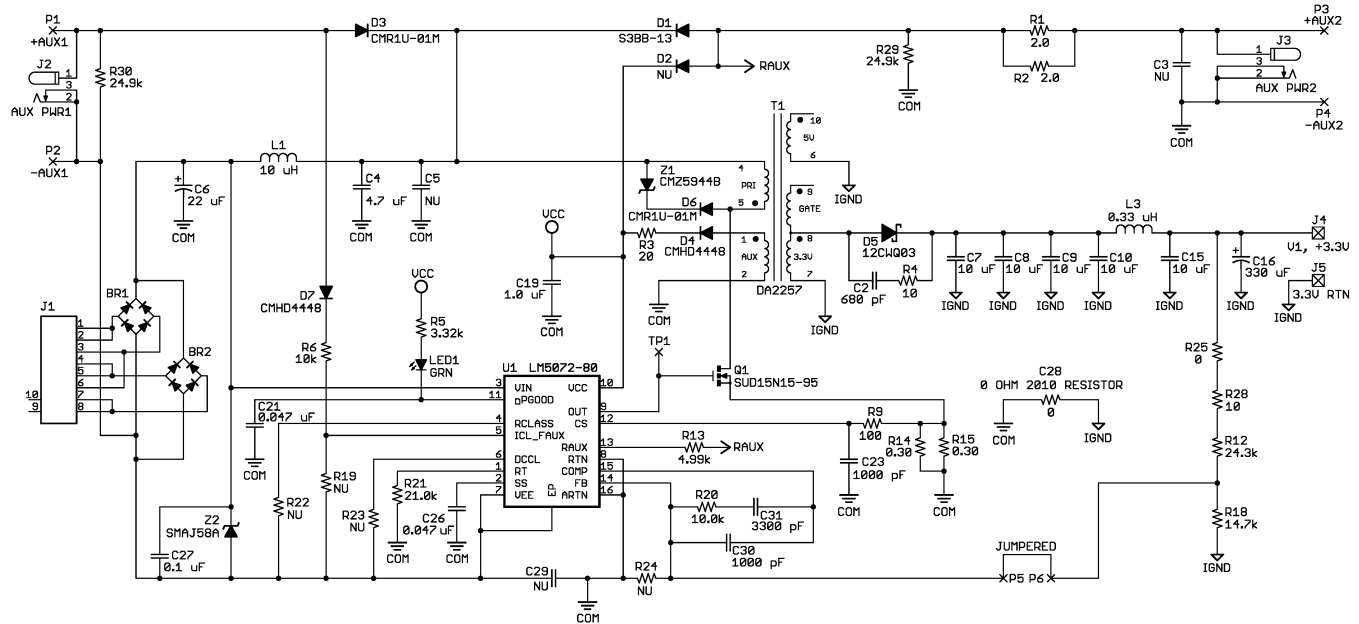

Figure 33. PD Solution with Non-Isolated Flyback Topology
6. Jumpers P5 and P6 (Figure 33) should be deleted from the schematic completely, being replaced by a short connection for an isolated application, or by an open for a non-isolated application.
Figure 33 shows an application example of the non-isolated version of Figure 31. This non-isolated version saves many parts used in the isolated feedback example shown in Figure 31. Similar simplification also applies to the non-isolated version of Figure 32.